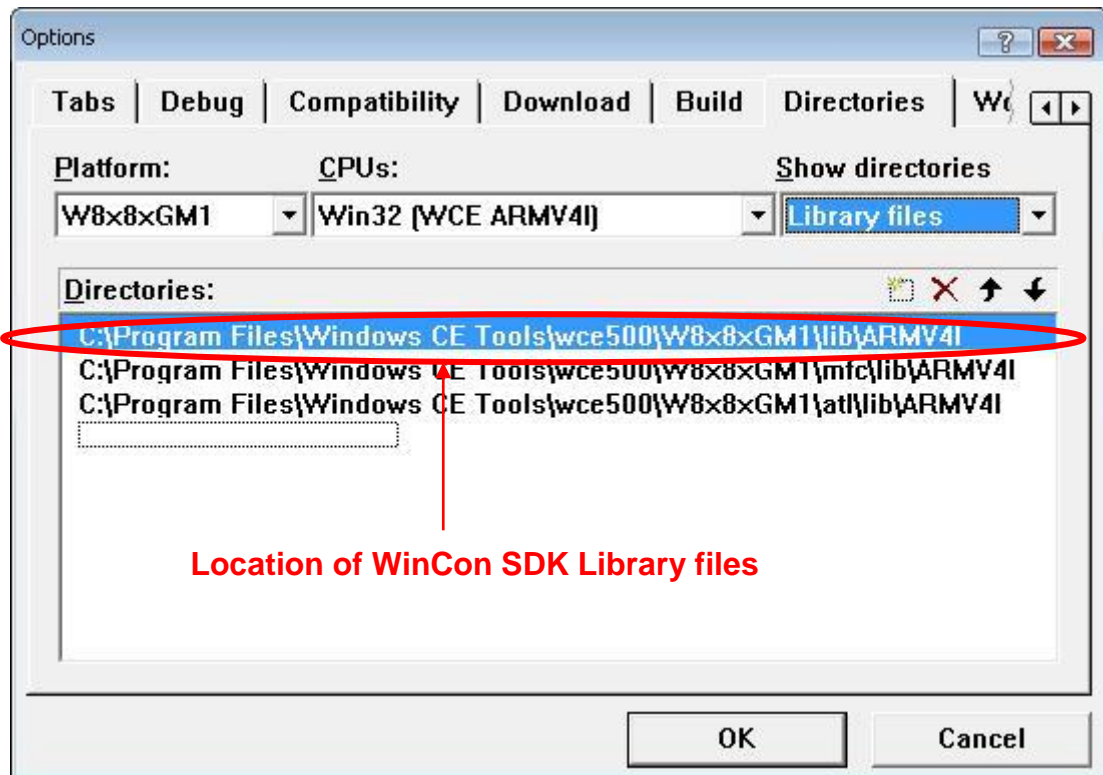

Fig. 5-1-7
5. Fig 5-1-7 displays the default location of Library files.